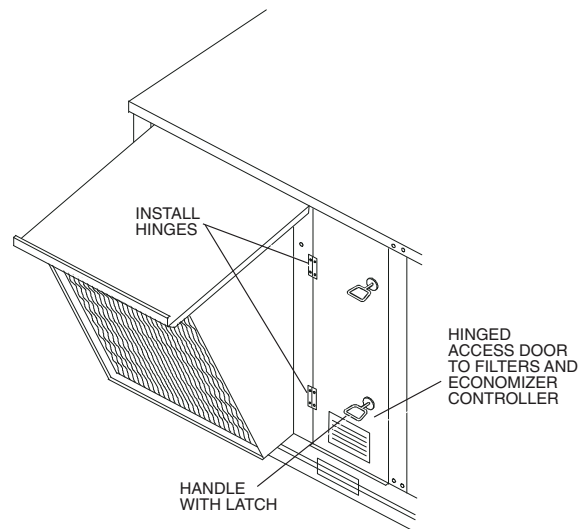

Fig. 4 — Attached Hinged Door to Hood Assembly
3. Align the hinged door on the opening to the right of the hood assembly. Screw the door hinges to the hood assembly as shown in Fig. 4.